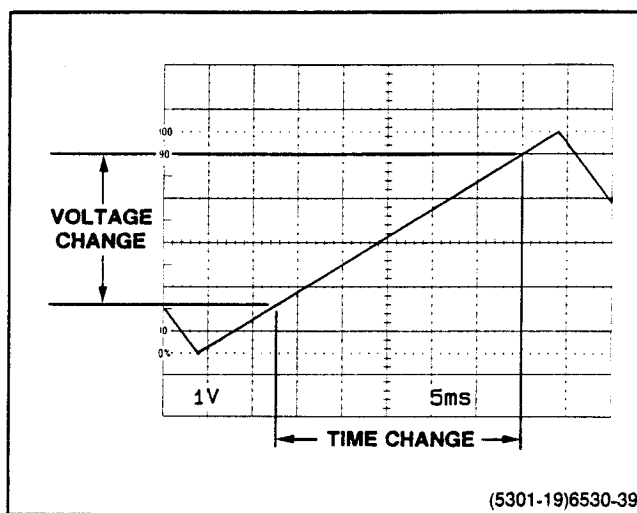

Figure 6-11. Slope.
3. Set the SEC/DIV switch to horizontally spread the portion of the waveform to be measured across the width of the graticule area (see Figure 6-11).
As an example, in Figure 6-11, the voltage difference between the measurement points is 1.74 V, and the time difference is 5.42 ms.